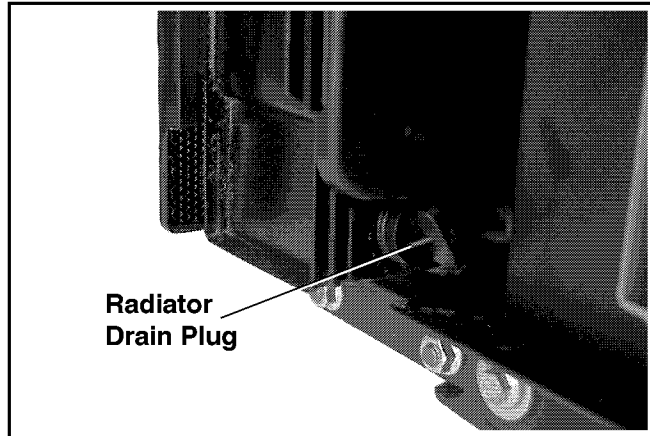

Figure 10. Removing Radiator Drain Plug.
2. Check if the radiator is cool to the touch. Slowly loosen the radiator cap to the first stop and allow any pressure to bleed off. Then loosen it fully and remove it. Loosen radiator drain plug and allow coolant to drain. See Figure 10.